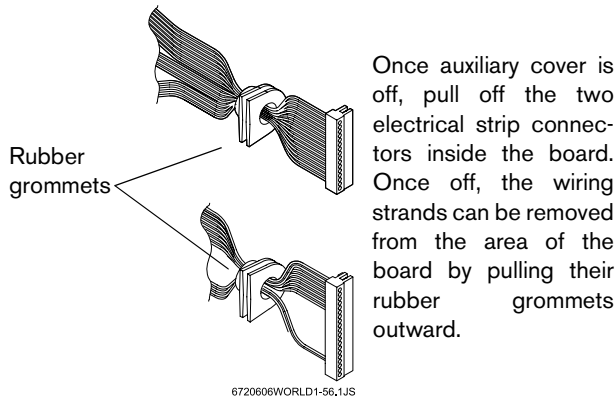

Fig. 25 Electrical strip connectors
- ▶ Remove the two electrical strip connectors inside the board (Fig. 25) and then loosen the 120V power supply cord retaining nut located underneath the heater. Once loosened, the power cord can be pulled up through the heater to provide sufficient slack.